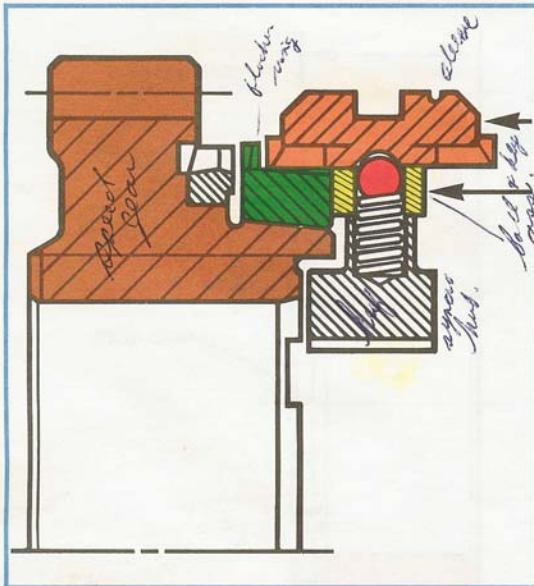

Figure 1-54, Initial Sleeve and Key Movement.
- The synchronizer sleeve is pushed by the shift fork toward the speed gear (Figure 1-54). The keys travel along with the sleeve, being held by the balls under spring pressure, and are in light contact with the blocking ring. (The keys are in the "neutral detent" position.)